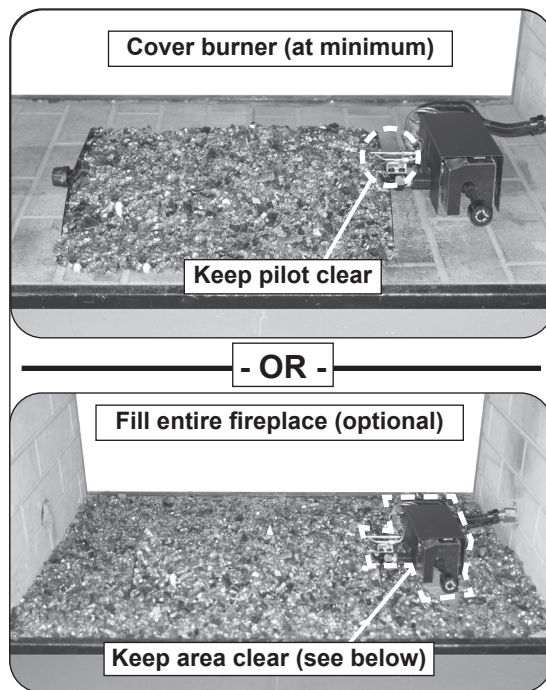

Fig. 22-1 Glass media placement
1. After the required sand/vermiculite and screen have been placed, pour the glass media (glass, gems) so that the burner pan is covered completely and evenly (see Fig. 22-1).
- DO NOT place any glass media directly on the pilot assembly, on or within the heatshield, or under a knob if one exists at the front of the valve (see Fig. 22-1 and Fig. 22-3).
2. Complete placement by pouring the remaining glass media on the floor of the fireplace, around all sides of the burner system (see Fig. 22-1).